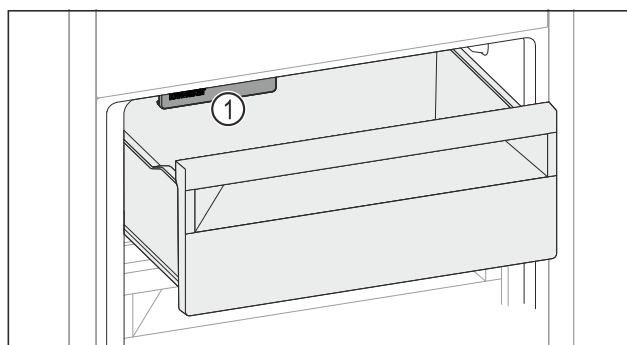

Fig. 178
► Watch out for the IceMaker *Fig. 178 (1)*.